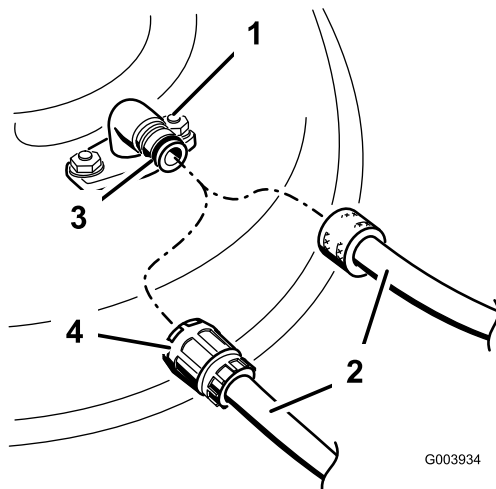

Figure 48
4. Attach a hose to the washout fitting, and turn the water on high (Figure 48).